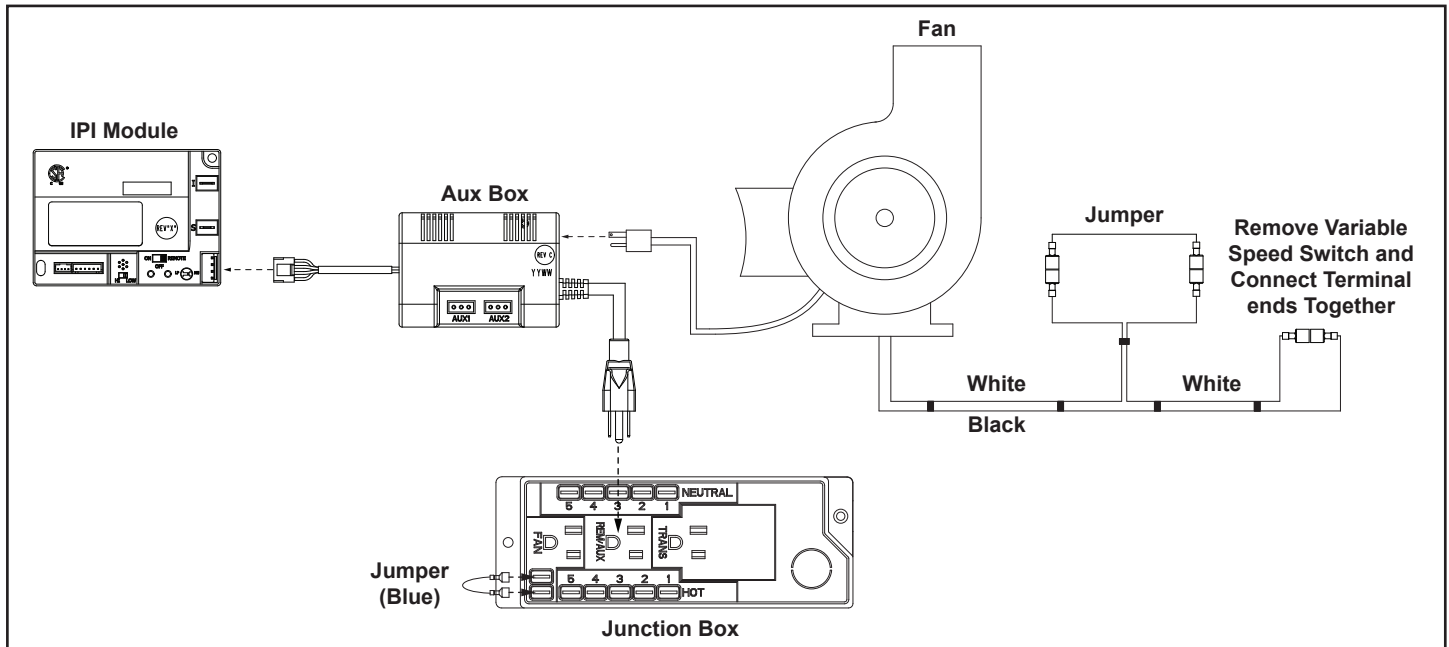

Figure 8.10 - Fan Wiring Diagram
4. Plug the wiring harness extending from the auxiliary box into the IPI module supplied with the store. See figure 8.10 (Wiring Diagram)